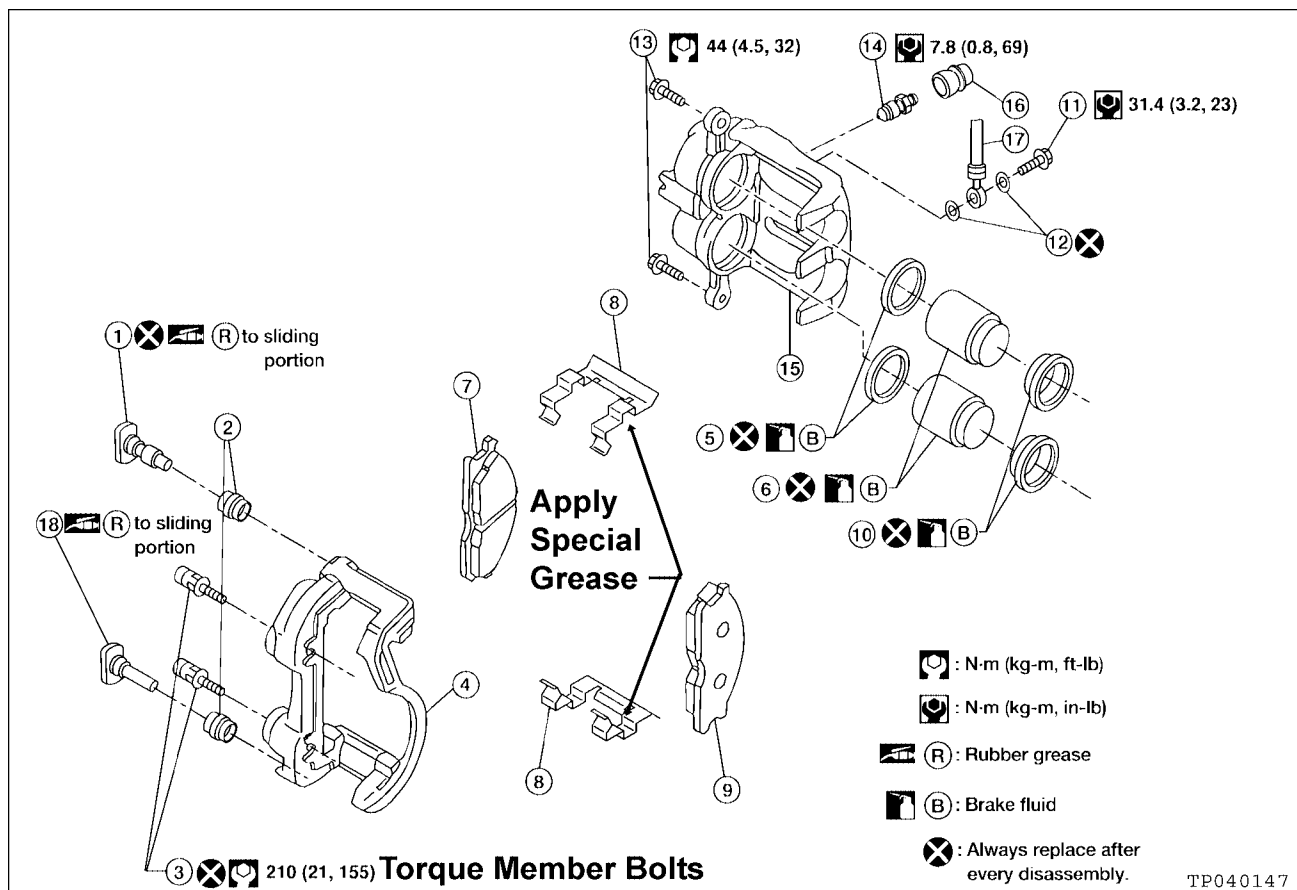
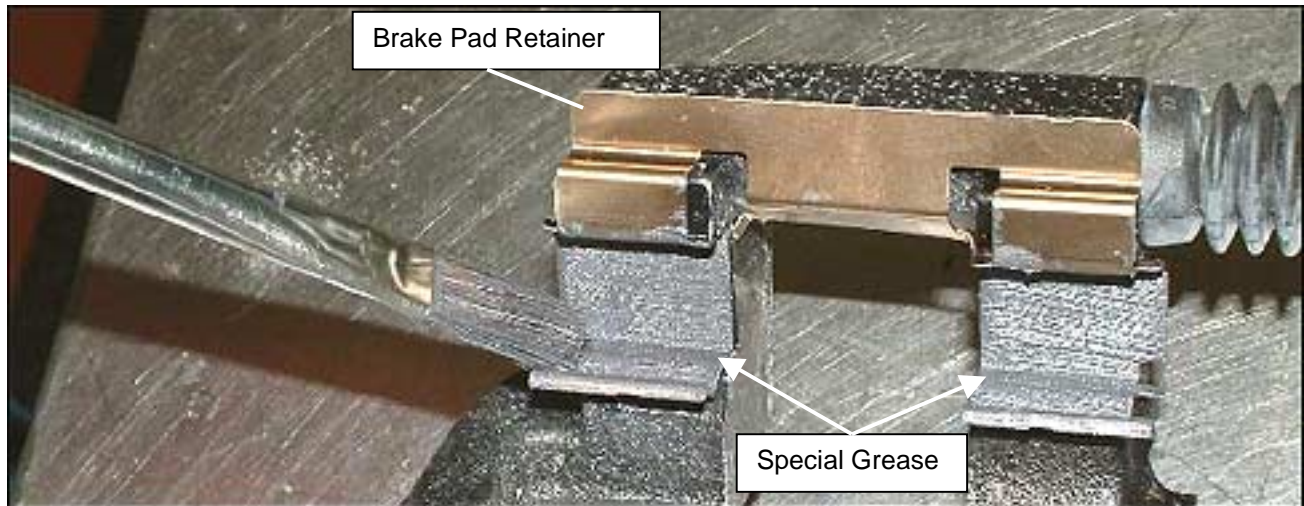

Figure 4
Figure 5
- **IMPORTANT:** Make sure to use **new** torque member anchor bolts. **Do not** reuse the old ones (see Figure 4).
7. Apply special grease to the brake pad retainers (see Figure 4 below and Figure 5 on the next page).
8. Replace the brake pads with new ones (see Parts Information and Figure 4 on the previous page).